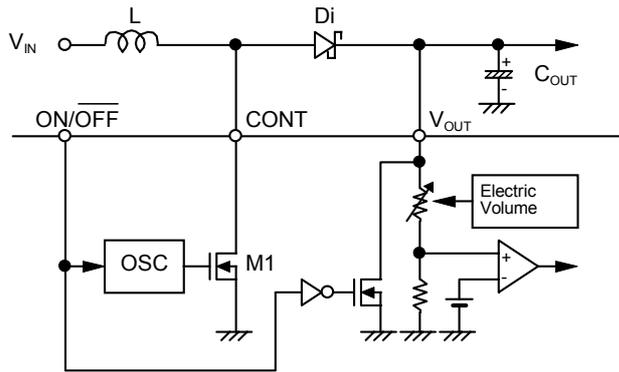

Figure 5 Step-Up DC-DC Converter
The following are fundamental equations of step-up switching regulators [ (1) to (7) ] (see Figure 5).